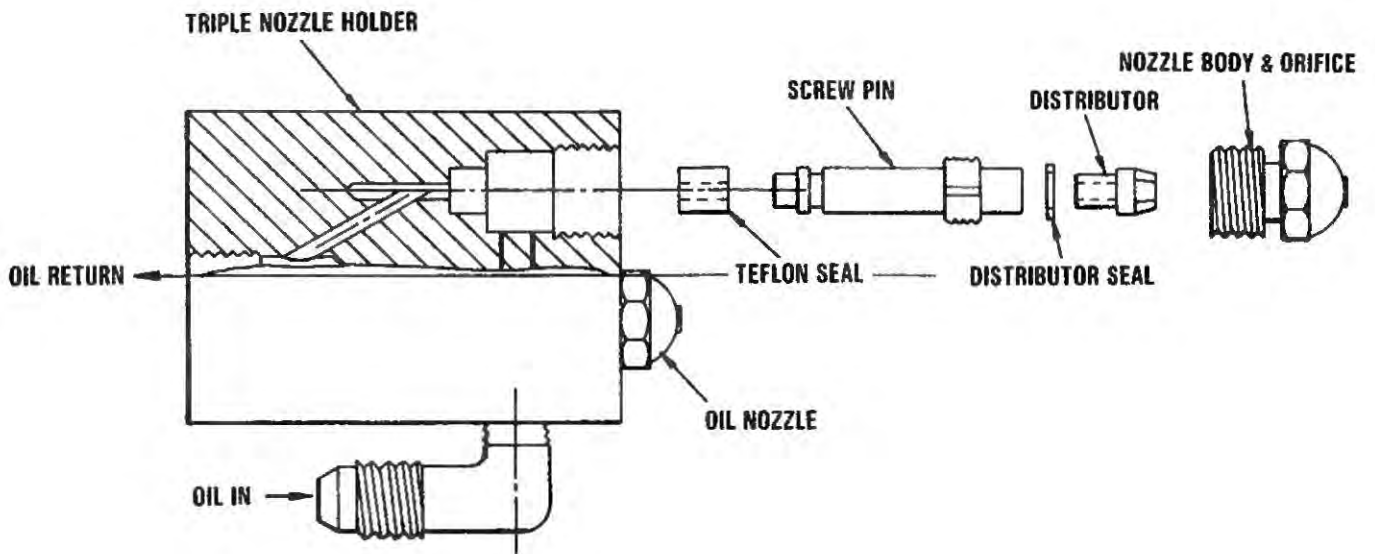

FIG. 5-4 TYPICAL OIL NOZZLE - PRESSURE ATOMIZING
1. On high-low firing burners and on all fully modulating burners, triple variable flow nozzles are used (Fig. 5-4). These nozzles are of the by-pass type and are used with a constant supply pressure of approximately 300 psig. (Note rating stamped on the nozzle is the nominal delivery rate at 100 psig.)